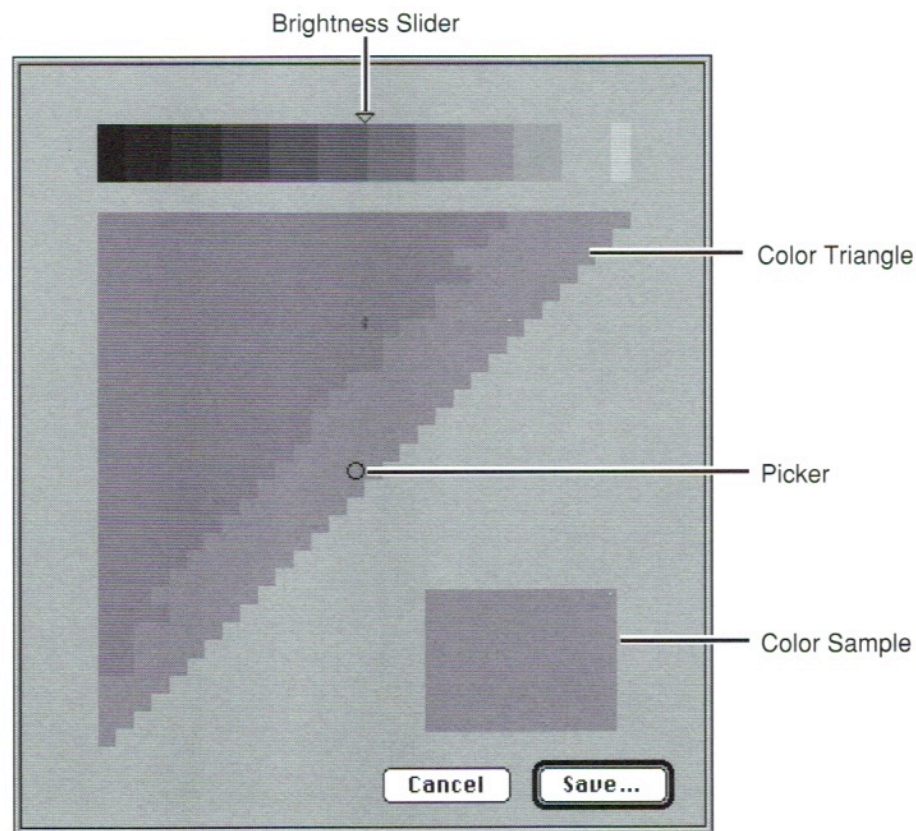

Figure 28. AppleVision Control Panel Color Picker
5. Hold the ambient light tool against the display face, over the square color sample (see Figure 28).
6. Drag the picker (see Figure 28) in the color triangle until the color sample is similar to the gray color on the ambient light tool.
7. Drag the brightness slider (see Figure 28) until the color sample matches the ambient light tool exactly.